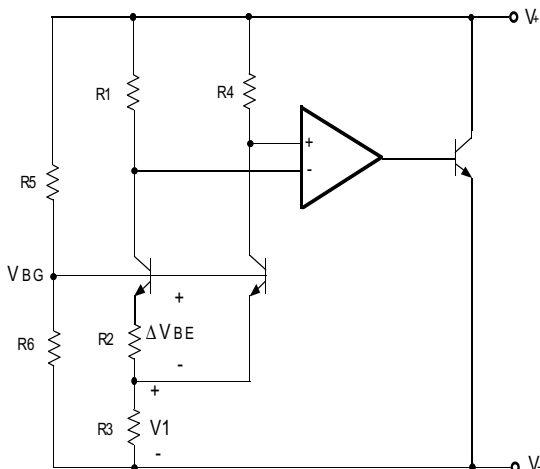

Figure 7. AD1586/7/8/9 Simplified Schematic
The AD1586/7/8/9 family uses the "bandgap" concept to produce stable, low-temperature coefficient voltage references which are suitable for high accuracy data-acquisition components and systems. This family of precision references makes use of the underlying temperature characteristics of a silicon transistor's base-emitter voltage in the forward-biased operating region. Under this condition, all such transistors have a  $-2 \text{ mV}/^\circ\text{C}$  temperature coefficient (TC) and a  $V_{BE}$  that, when extrapolated to absolute zero,  $0^\circ\text{K}$ , (with collector current proportional to absolute temperature) approximates the silicon bandgap voltage. By summing a voltage that has an equal and opposite temperature coefficient of  $+2 \text{ mV}/^\circ\text{C}$  with the  $V_{BE}$  of a forward-biased transistor, a zero TC reference can be developed. In the AD1586/7/8/9 simplified circuit diagram shown in Figure 7, such a compensating voltage,  $V_1$ , is derived by driving two transistors at different current densities and amplifying the resultant  $V_{BE}$  difference ( $\Delta V_{BE}$  - which has a positive TC). The sum ( $V_{BG}$ ) of  $V_{BE}$  and  $V_1$  is then scaled by the  $R_5/R_6$  resistor network to produce stable reference voltage outputs of 2.5V, 3V, 4.096V, and 5V. To ensure that the bandgap cell and resistor network maintain their required current levels, a buffer amplifier drives an output transistor to sink any excess current.